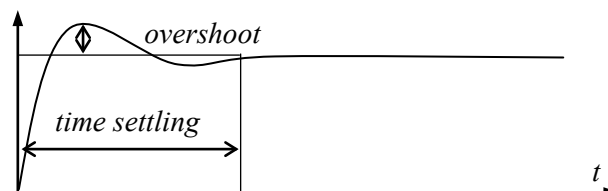

Fig. 2.7
**Step response** Another typical characteristic of electronic circuit is a transient that is called a *step response*. An example given in Fig. 2.7 describes the system output when the step change in the input occurs. Ideally, when a device input changes, the output should change instantly. In practice, the output is likely to *overshoot*, *undershoot*, or both during the *settling time*. This uncontrolled movement of output during a transition is known as a *glitch*. The settling time of an electronic system is the time from a change of input to when the output comes within and remains within some error band. The shorter is the settling time and glitch the better is the system.